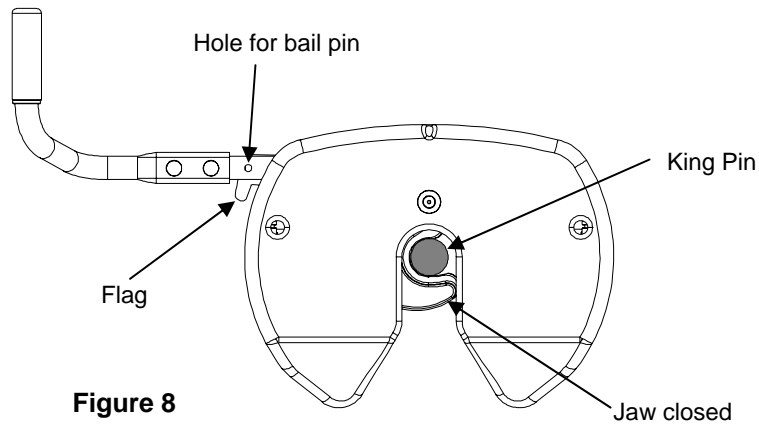

Figure 8
7. Place bail pin through hole to make sure the hitch jaw is locked closed. **IF FLAG BLOCKS HOLE FOR BAIL PIN, TRAILER HAS NOT BEEN PROPERLY CONNECTED TO HITCH. DO NOT TOW!** Repeat above steps until trailer is properly hitched. (see Figure 8)